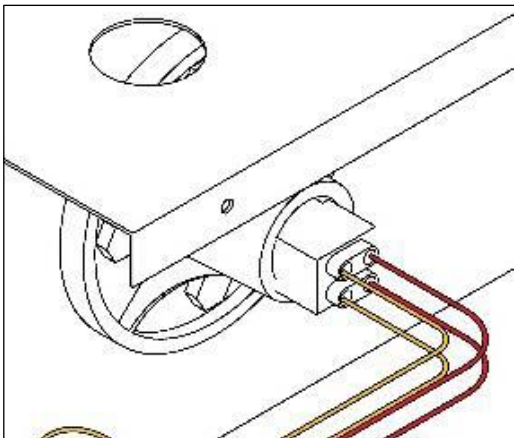

Figure 10
5.) Disconnect lamp plugs from lamps that will be replaced. See Figures 10 and 11.
11.) Reconnect lamp plugs. See Figures 10 and 11.